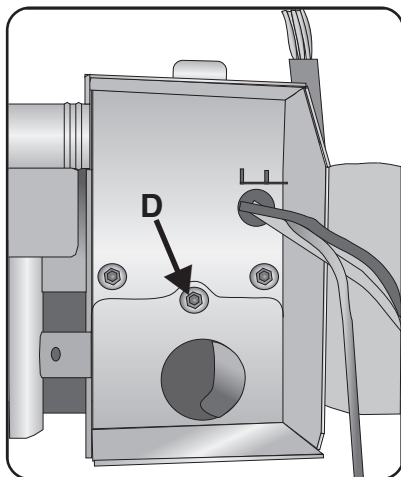

Figure 14
2. Remove the strain relief plate by removing the screw at the back of the junction box, as shown in Figure 14, letter D and sliding the strain relief plate out.